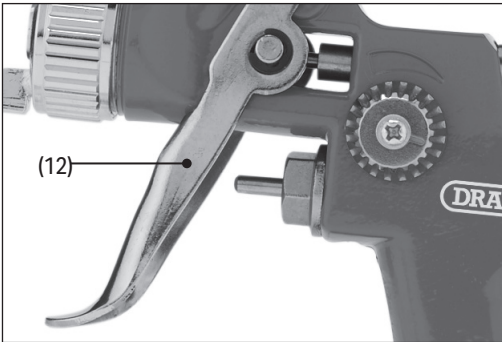

Fig. 13
Paint is released from the spray gun by squeezing the trigger (12) (Fig. 13):